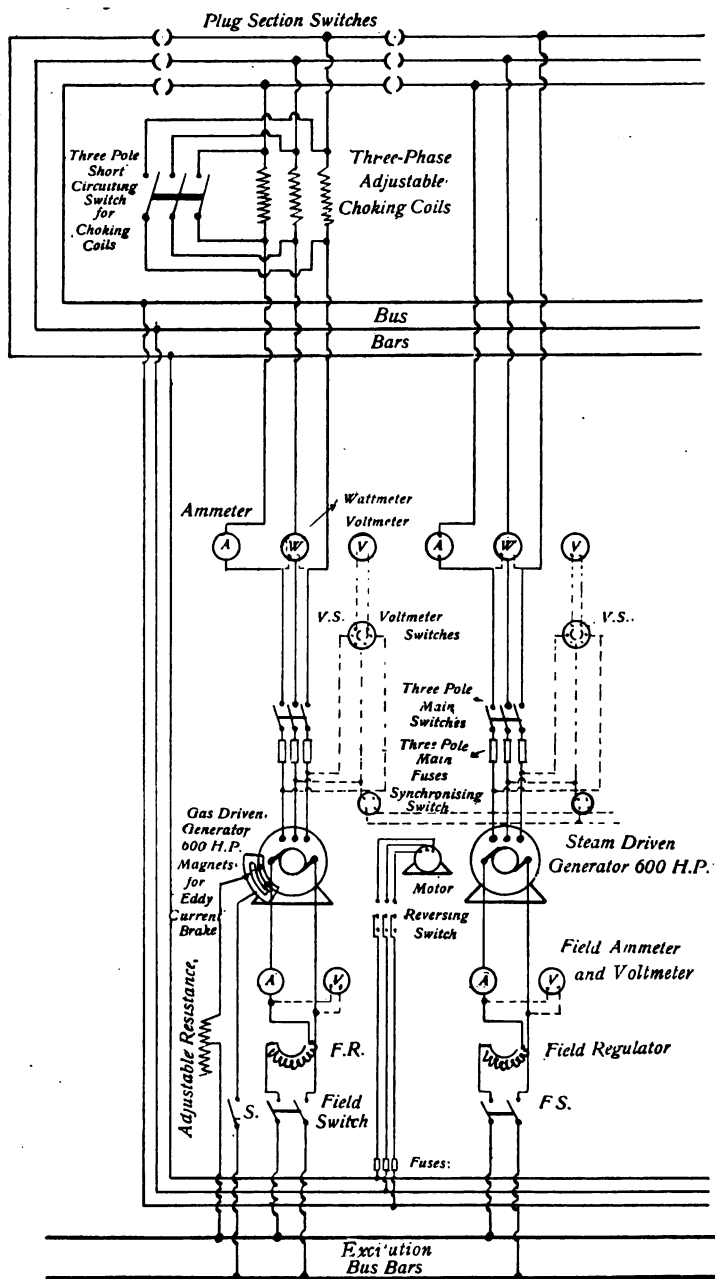

FIG. 106.—Polyphase Machinery Connections.
*Fig. 106* illustrates the diagrams of connections required for a three-phase generator driven both by a gas engine and a steam engine. When connecting the gas-driven generator to the "bus" bars supplied by the steam-driven generators, a choking coil and an artificial load are used. The latter does not consist of a resistance connected to the generator, but of a special eddy-current brake acting on the fly-wheel, having a maximum braking effect of about 300 H.P. For work of this character, an artificial load is an absolute necessity, as an unloaded gas generator cannot be brought up to speed and thrown on the bus bars. The brake in question only absorbs a trifling amount of energy from the direct current mains, requires no additional space, can be regulated with ease and accuracy, and is an excellent mechanical job. Both the brake and the choking coil are put out of use as soon as the gas generator is working on the load; the (three-phase) choking coil is adjustable, and its function is simply to limit the synchronising currents which occur during the adjustments.